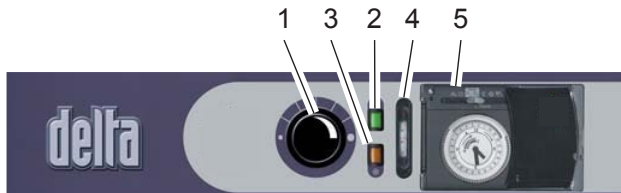

Fig. 23: Control panel
### 7.1.1 LEARNING YOUR WAY AROUND THE CONTROL PANEL (FIG. 23)
*(item marked 2, Fig. 23)*
**1 - Thermostat adjustable between 60 and 90° C** *(item marked 1, Fig. 23)*
#### 2 - ON/OFF switch *(item marked 2, Fig. 23)*
#### 3 - Summer/Winter selector switch *(item marked 3, Fig. 23)*
#### 4 - Thermometer *(item marked 4, Fig. 23)*
#### 5 - Controller *(item marked 5, Fig. 23)*